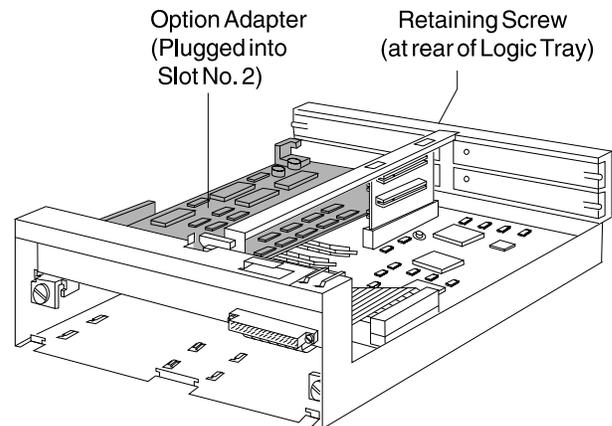

Figure 3-10. Option Adapter
2. Note which slot the option adapters are plugged into. See Figure 3-10.